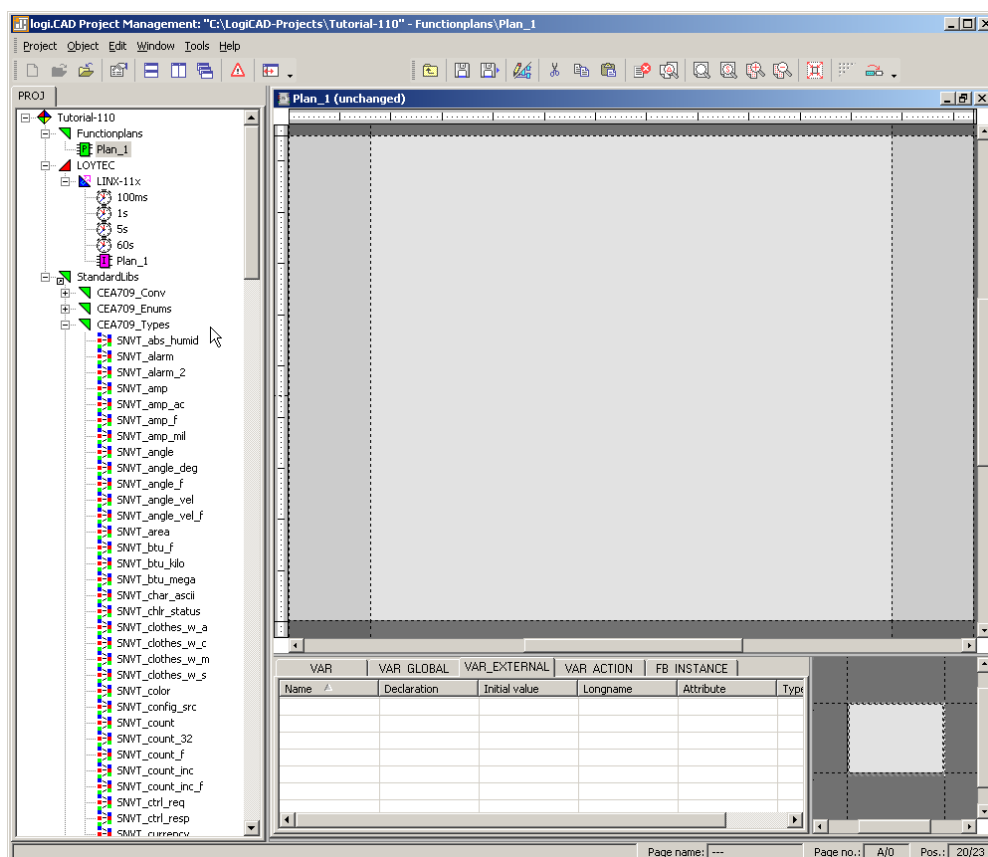

Figure 50: Edit Plan_1
7. As shown in Figure 50 below, expand the tree element **Functionplans** and double click **Plan_1** in order to start editing the plan.